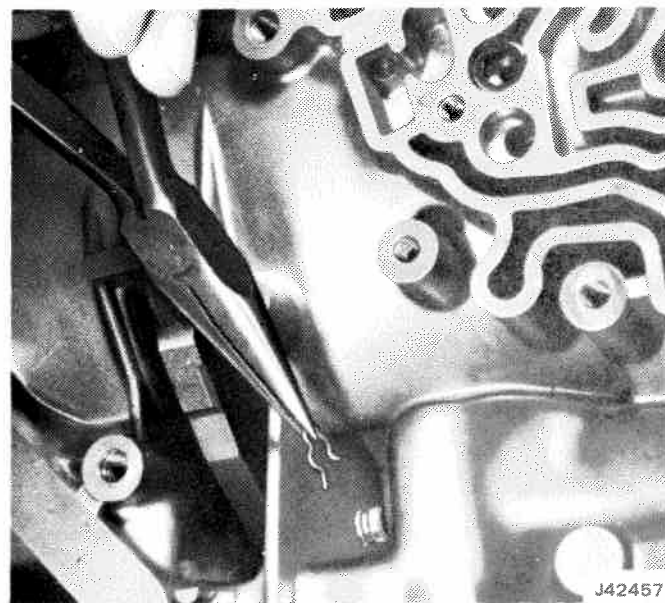

Fig. 7-27 Removing-Installing Retainer Spring From Parking Pawl Shaft
(7) Remove retainer spring from parking pawl shaft (fig. 7-27).